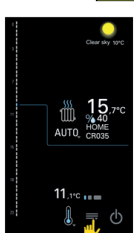

Fig.45A
9.4.3 Press  , Fig.46B, to go back to Fig.45A
9.5.1 Follow  to set temperature levels; Fig.45A to 45D
9.6.1.1 Follow  to set the Thermal differential; Fig. 45A - 45D
9.6.2.1 Follow  to set Frost protection; Fig.45A-45D
9.7.1 Follow  to delete the programmable thermostat; Fig.45A - 45D